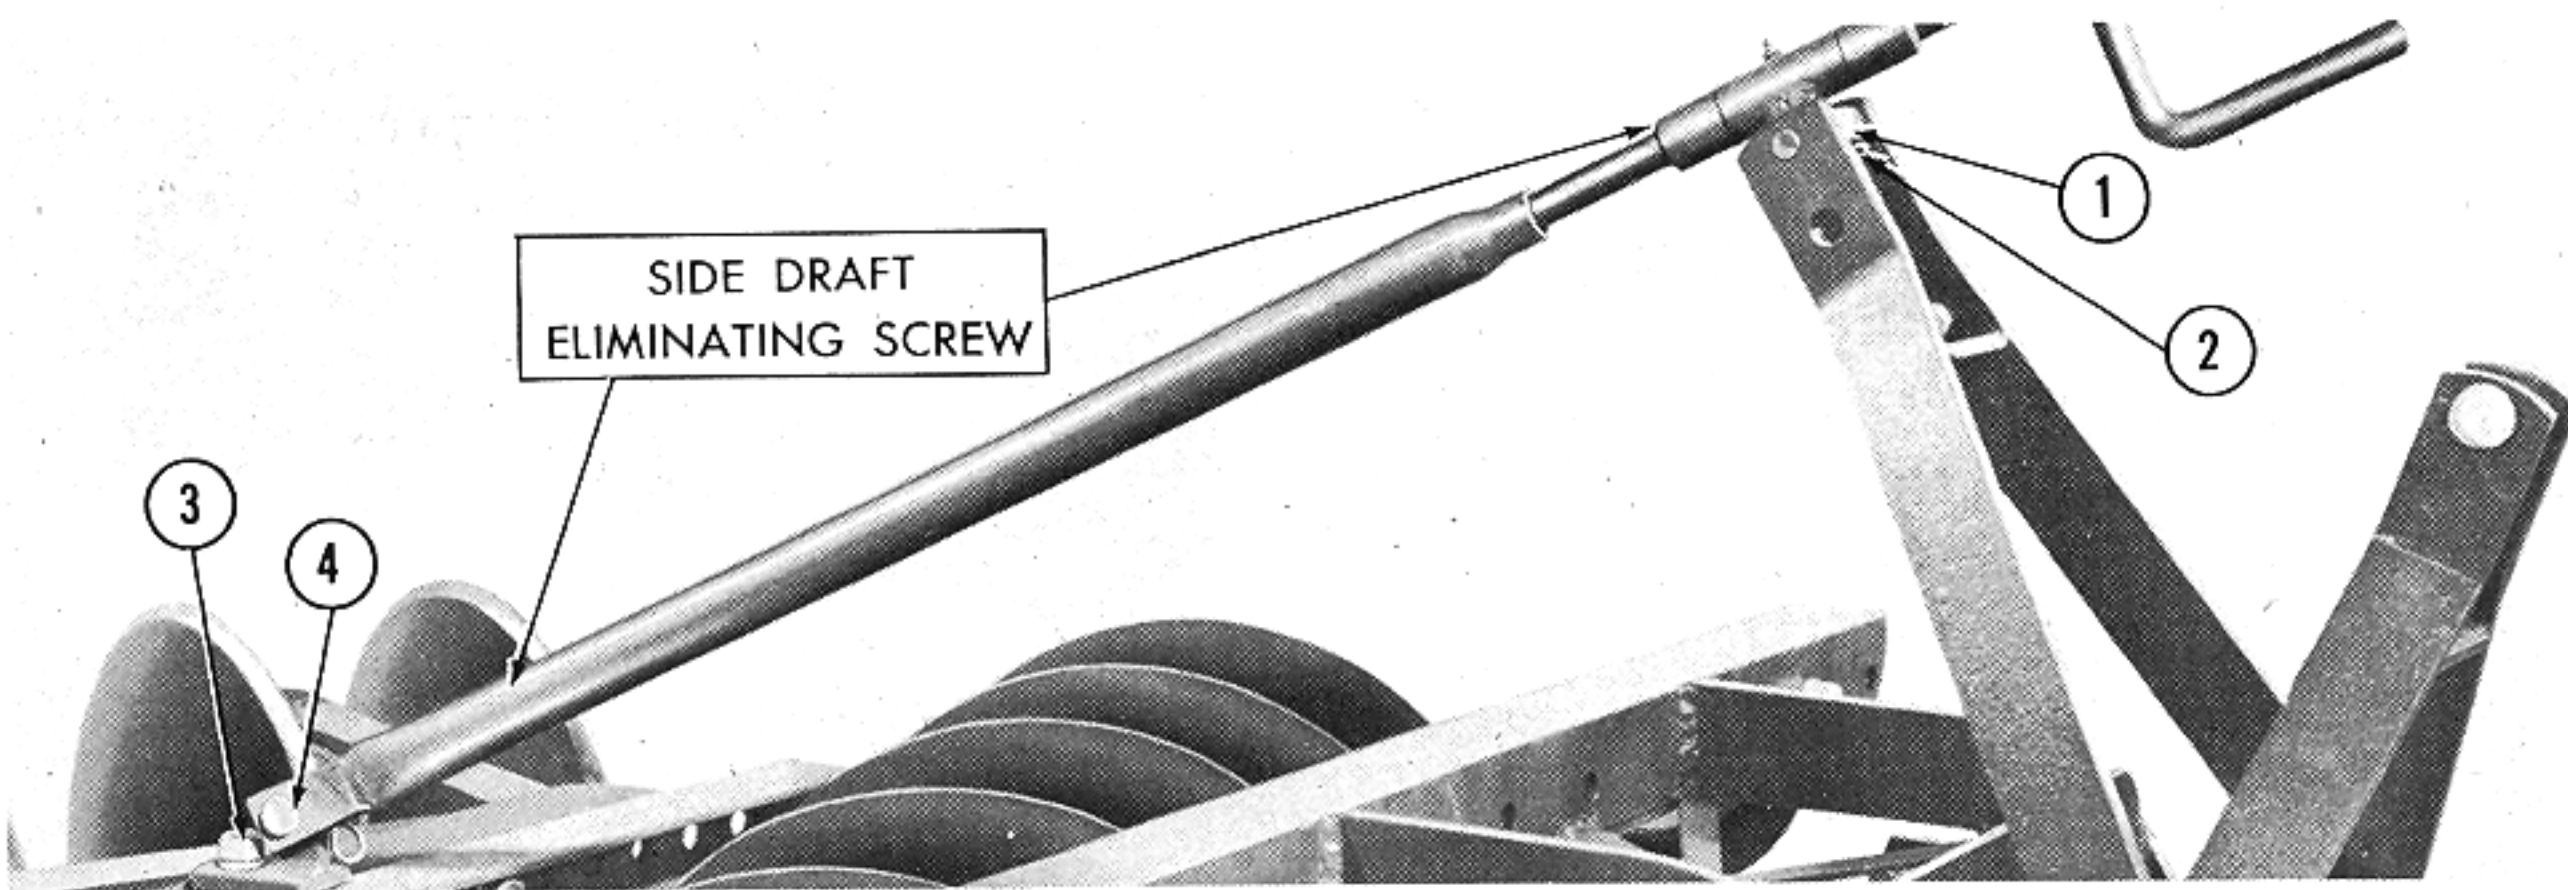

Figure 9
7. Attach side draft eliminating screw assembly. See Figure 9.
- a. Insert the spindle pin of the draft screw assembly in the spindle block (1) at the top of the outer "A" frame and secure with cotter pin (2).
- b. Bolt the rear end to the center of the rear frame with bolt (3) provided. See Figure 9.
- Detach the side draft eliminating screw at the frame end by removing pin (4), Figure 9.